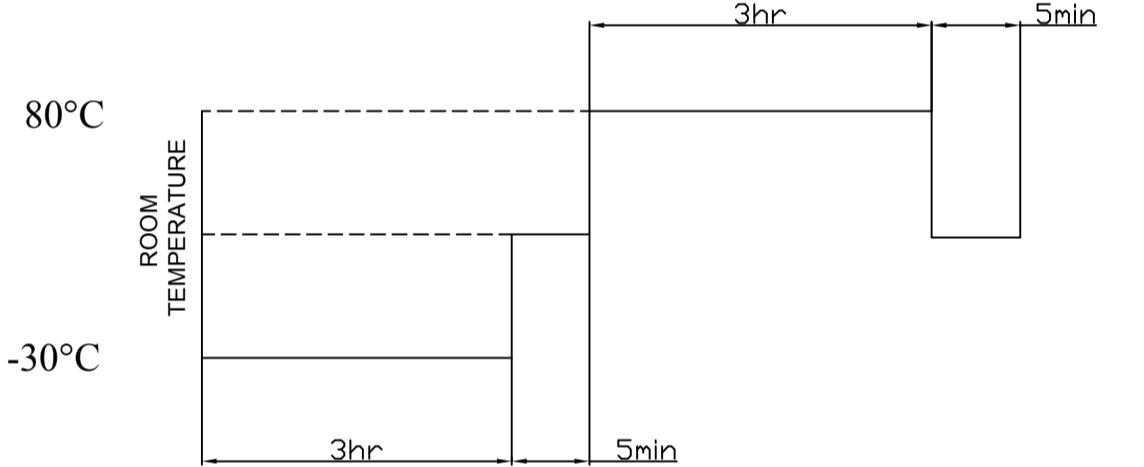

FIGURE 3
- 1) Temperature shock test: in the vehicle installation state, according to the cycle of Figure 3 for 6 cycles;